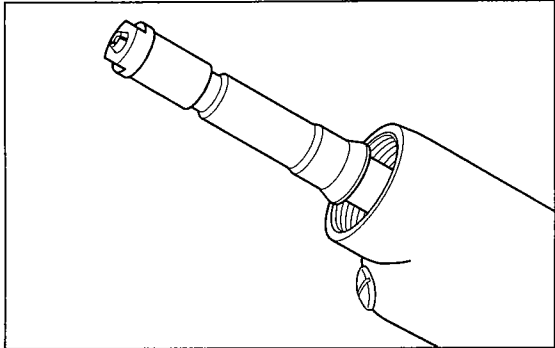

Figure 1
2. Withdraw the Pulling Head Assembly so that the end of the Hydraulic Piston (Item 17) clears the Passage Body (Item 31). (See Figure 1)